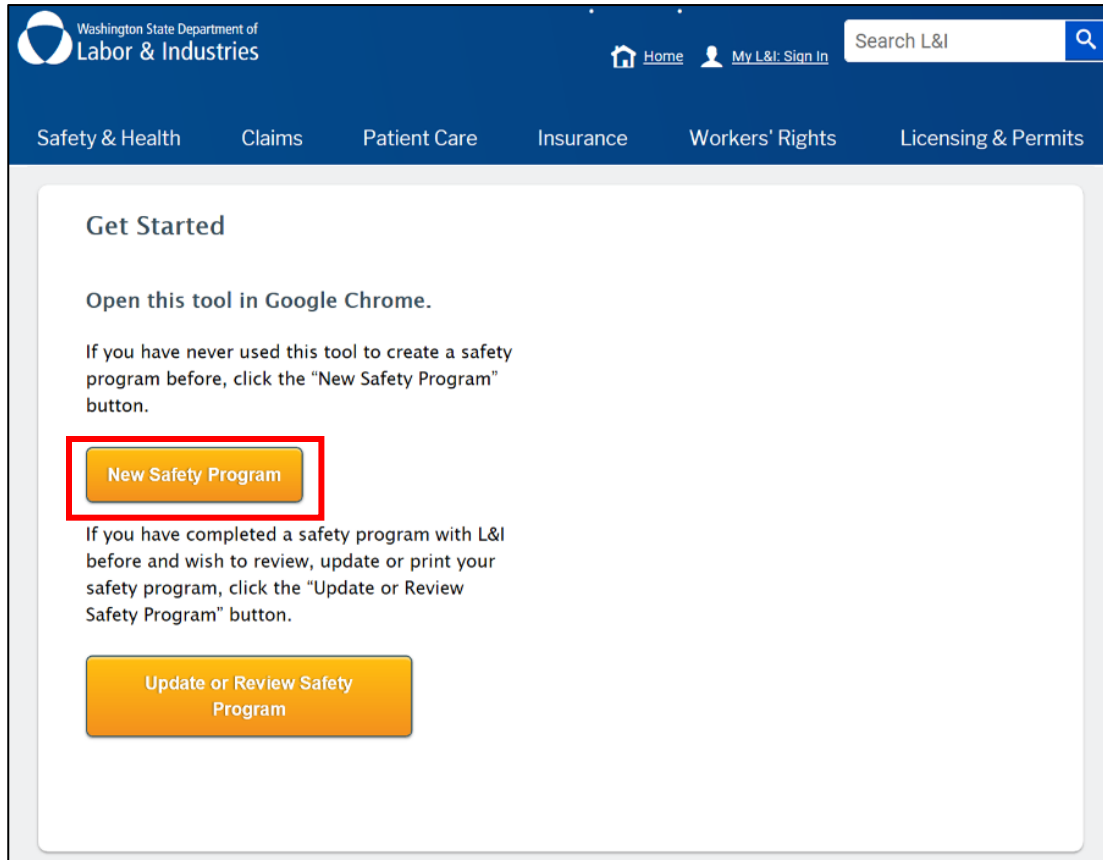

Figure 2. Creating a new safety program.
- After clicking “Get Started”, click the “New Safety Program” (see *Figure 2*) button to create your first safety program.